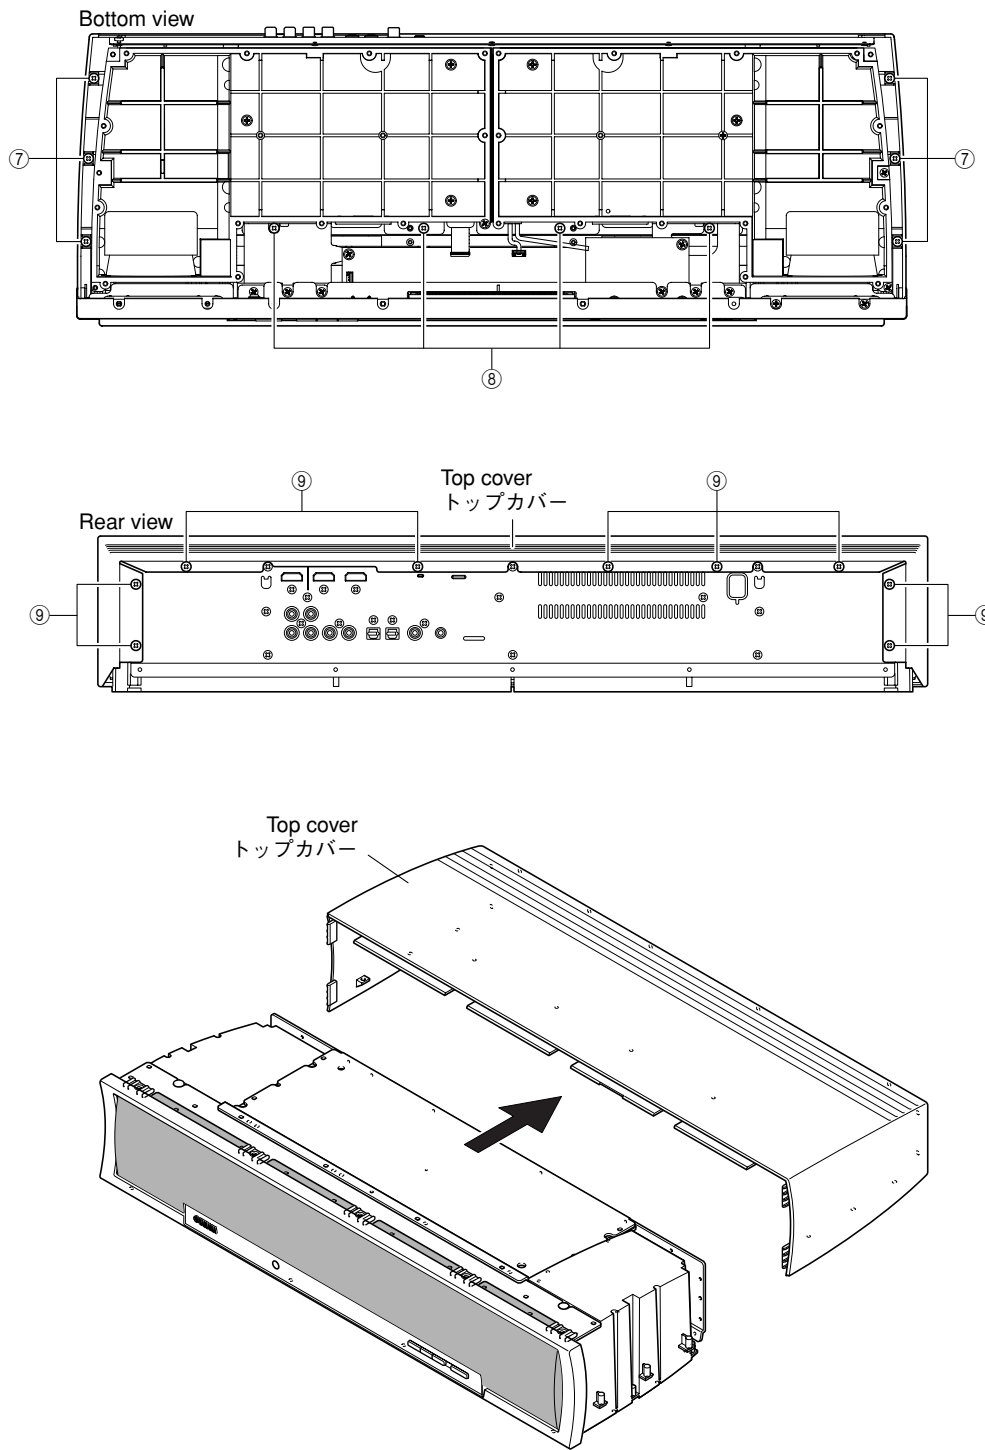

Fig. 10
- a. Remove 6 screws (⑦), 4 screws (⑧) and 9 screws (⑨). (Fig. 10)
- a. ⑦のネジ6本、⑧のネジ4本、⑨のネジ9本を外します。(Fig. 10)